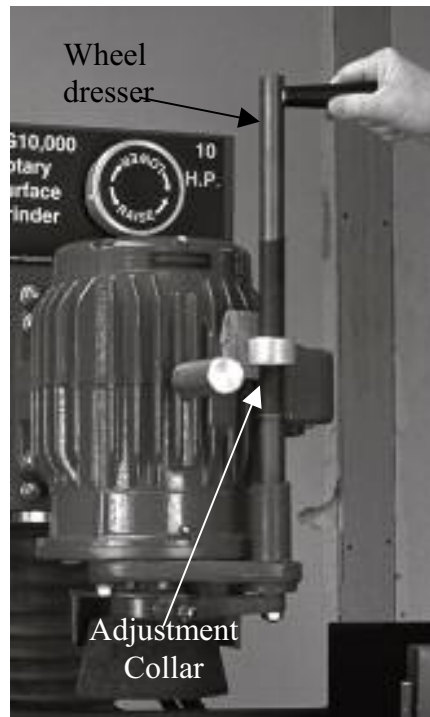

Figure 17
3. When a new grinding wheel is installed, or a wheel is re-installed, the wheel should be dressed or “trued up” (Figure 17).
1. Since it may be impossible to accurately match the grinding wheel material and hardness to the metal alloy being ground, it may become necessary on some applications to dress the grinding wheel after use. The purpose in dressing the wheel is to remove that portion of the wheel's edge which has become dull and/or clogged with particles causing a decrease in cutting ability. A clean grinding wheel will be evident and very little heat will be generated in the work piece. Under ideal circumstances, the grinding wheel will break down during grinding at a rate sufficient to keep sharp, clean particles exposed on the grinding edge. If the grinding rate decreases noticeably as evident by a decrease in the shower of sparks, it will be necessary to dress the wheel. This should be accomplished by raising the wheel up far enough so that the dresser can swing under the wheel. The dresser height is changed by rotating the adjustment collar (Figure 17).